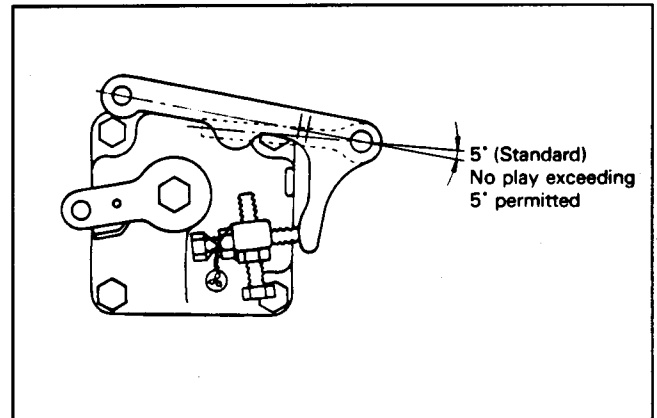

Figure 52
C. Install the governor spring lever and speed control lever so there is a minimum play of angle between levers (Fig. 52) .